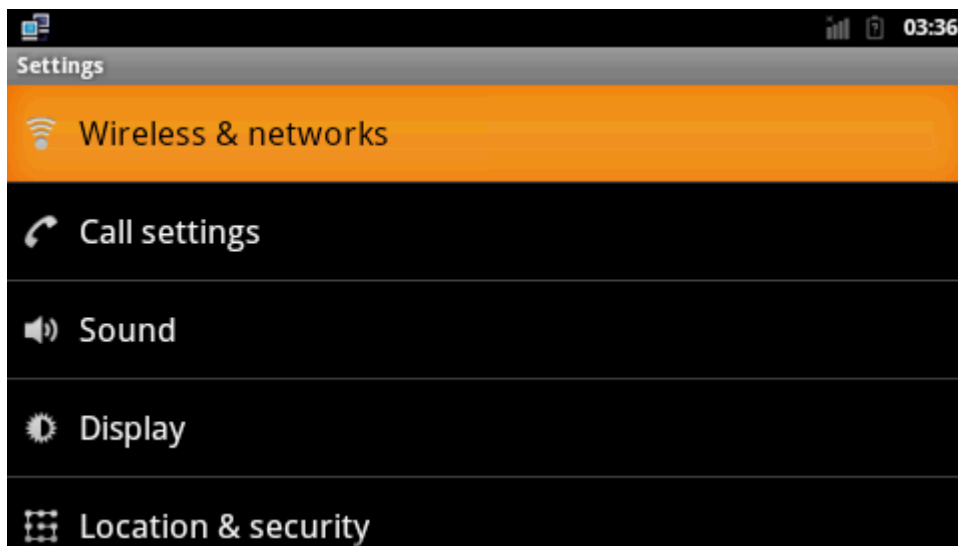

Figure 5-28
(2) Click "Wireless & networks" Refer to figure 5-28: